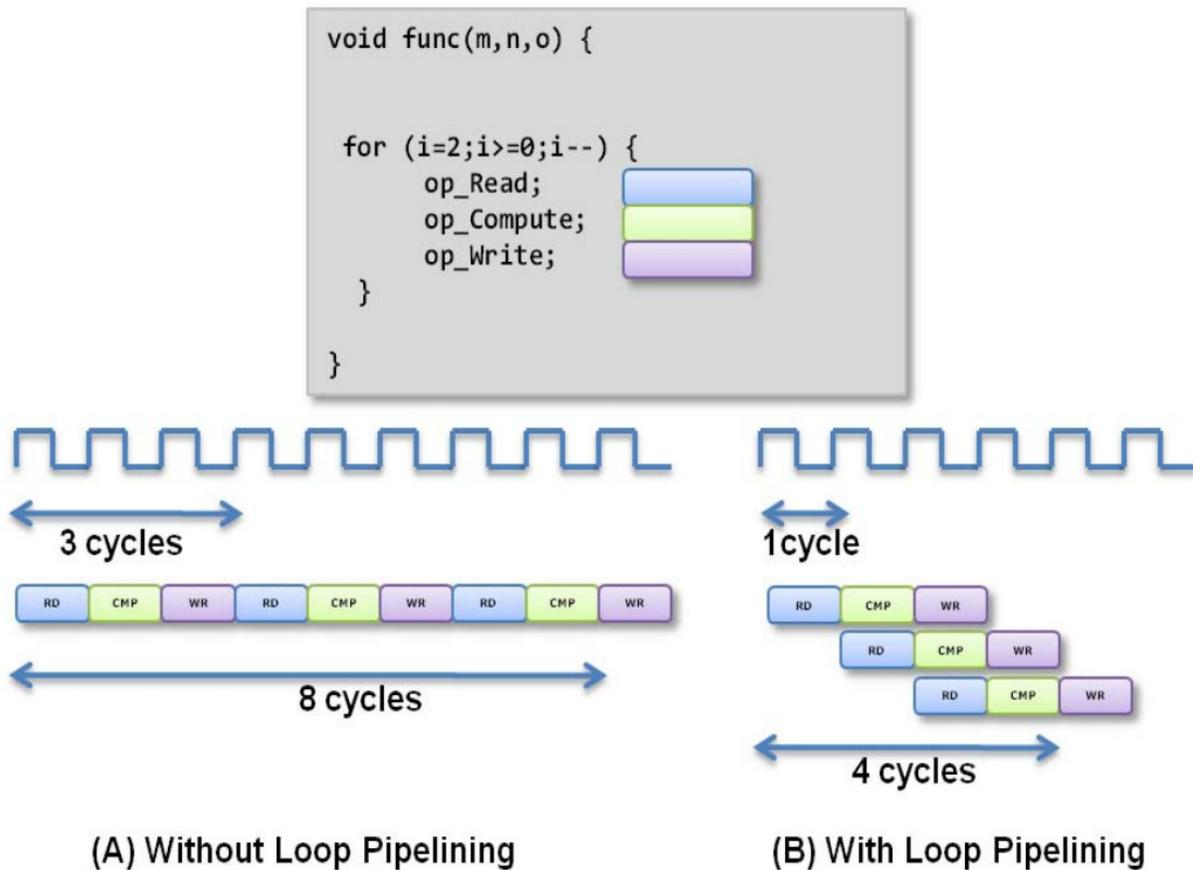

Figure 2: Loop Pipelining Example [4].
Figure 2 shows an example of loop pipelining [4]. Figure 2(A) shows the sequential loop, where the $II=3$, and it takes 8 clock cycles for the 3 loop iterations before the final write is performed. Figure 2(B) shows the pipelined loop. In this case, there are no resource contentions or data dependencies. Hence the $II=1$, and it takes 4 clock cycles before the final write is performed. You can see that loop pipelining can significantly improve the performance of your circuit, especially when there are no data dependencies or resource contentions.